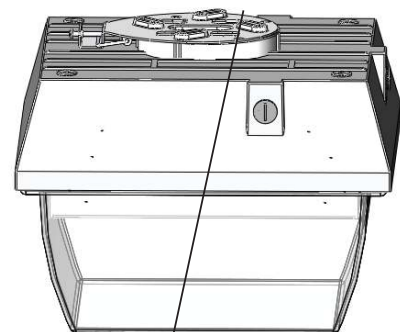

FIGURE 2
7. Lock the installation plate and the fixture. **(Fig. 2)**